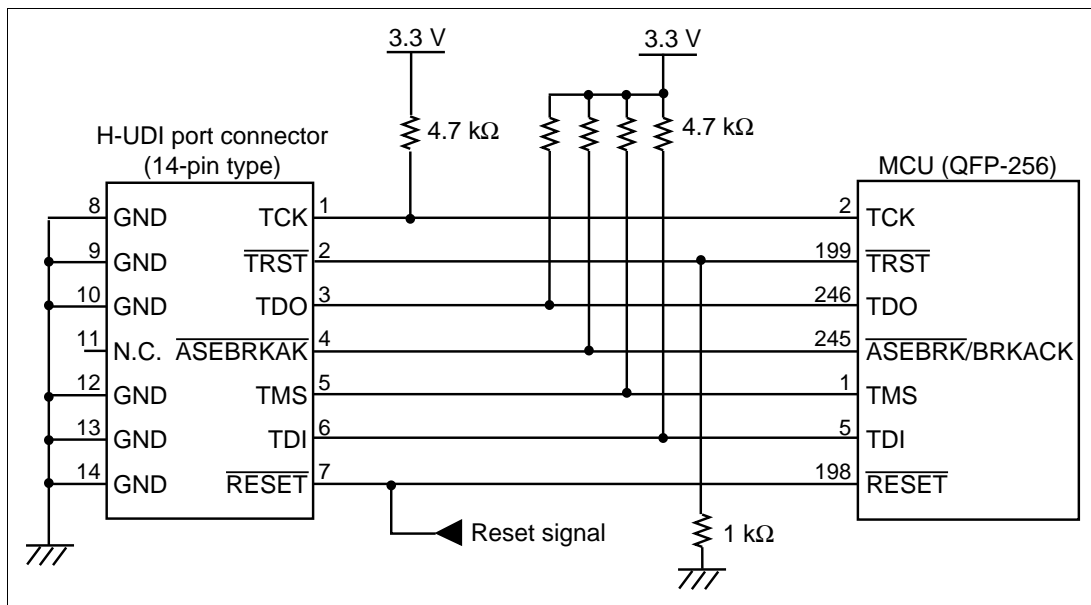

Figure 4.2 Recommended Circuit for Connection between the H-UDI Port Connector and MCU (14-Pin Type)
Figure 4.2 shows a recommended circuit between the H-UDI port connector and the MCU.
5. The resistance values shown in figure 4.2 are recommended.